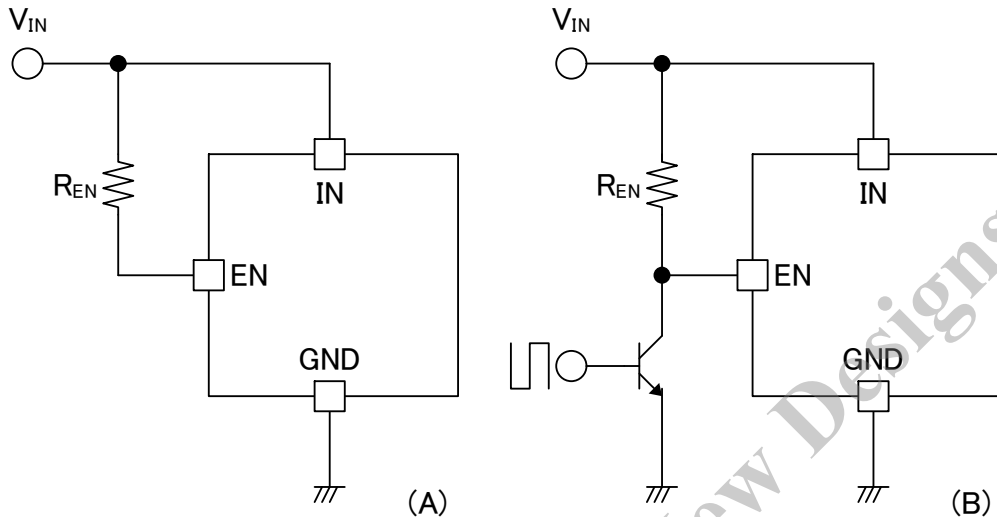

Fig. 7-2 Remote ON/OFF operation by EN terminal
The Fig7-2(B) is the option of the "Remote ON/OFF control" by using the EN terminal. By using switch such as Open-collector and, by removing the EN terminal voltage V_{EN} to GND level (Low), it is possible to turn OFF. In case of without ON / OFF operation by external signal, please use the Fig7-2 (A) connection. It is started by the applying of the V_{IN} , and it is stopped by shut-off of the V_{IN} . R_{EN1} is recommended 100[k Ω].
7.3 Soft-start Function (SS)